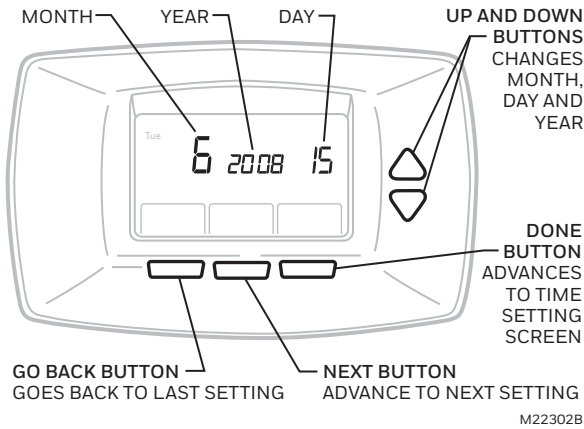

Fig. 29. Setting calendar when thermostat is first powered.
- When first powered, the thermostat proceeds through a sequence of screens to set the calendar. See Fig. 29.